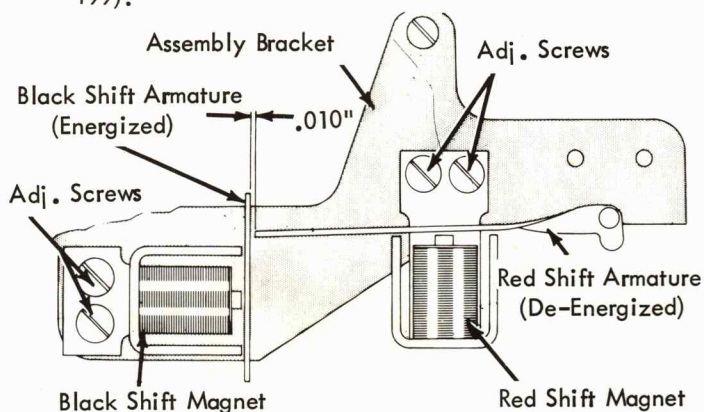

FIGURE 199. Magnet Positioning
2. Black Shift Magnet - With the black shift magnet armature energized and the red shift magnet armature de-energized, position the black shift magnet for a clearance of .010" between the black and red shift armatures (Fig. 199).